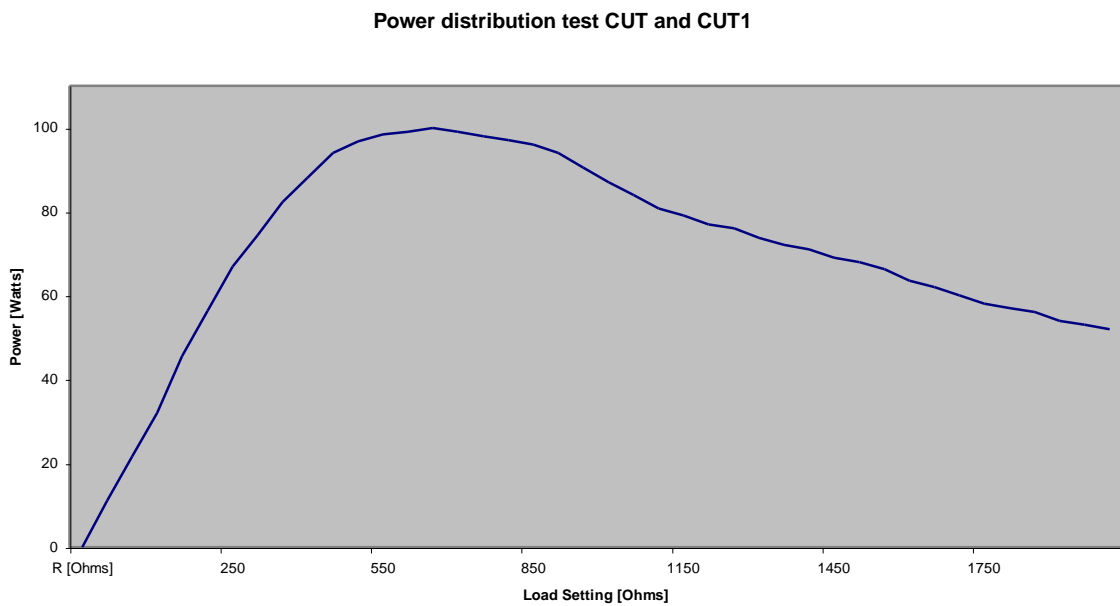
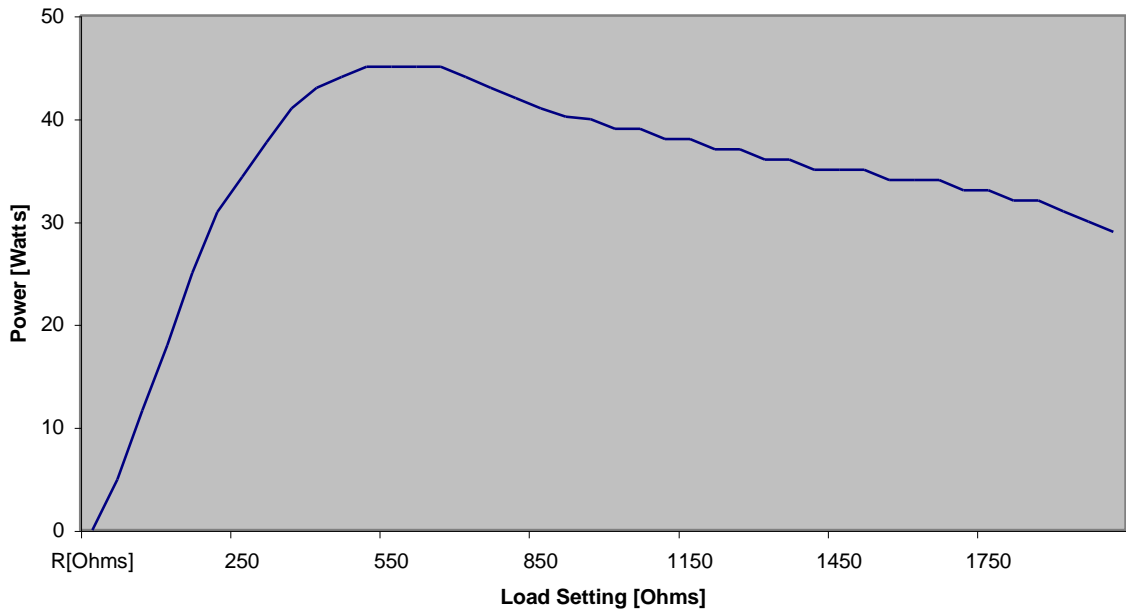

Fig.1
Fig.3.
- During the real operation the output power is changed automatically depending of the actual electrical resistance of the tissue between the active and neutral electrodes. This dependency is analyzed by so called Power Distribution Test (see the diagrams on fig.1 – fig.3). When the surgeon makes the output power setting, in fact he sets the maximal output power, which the unit can give at the characteristic tissue resistance (at about 500 Ohms for the model KENTAMED 1ME).